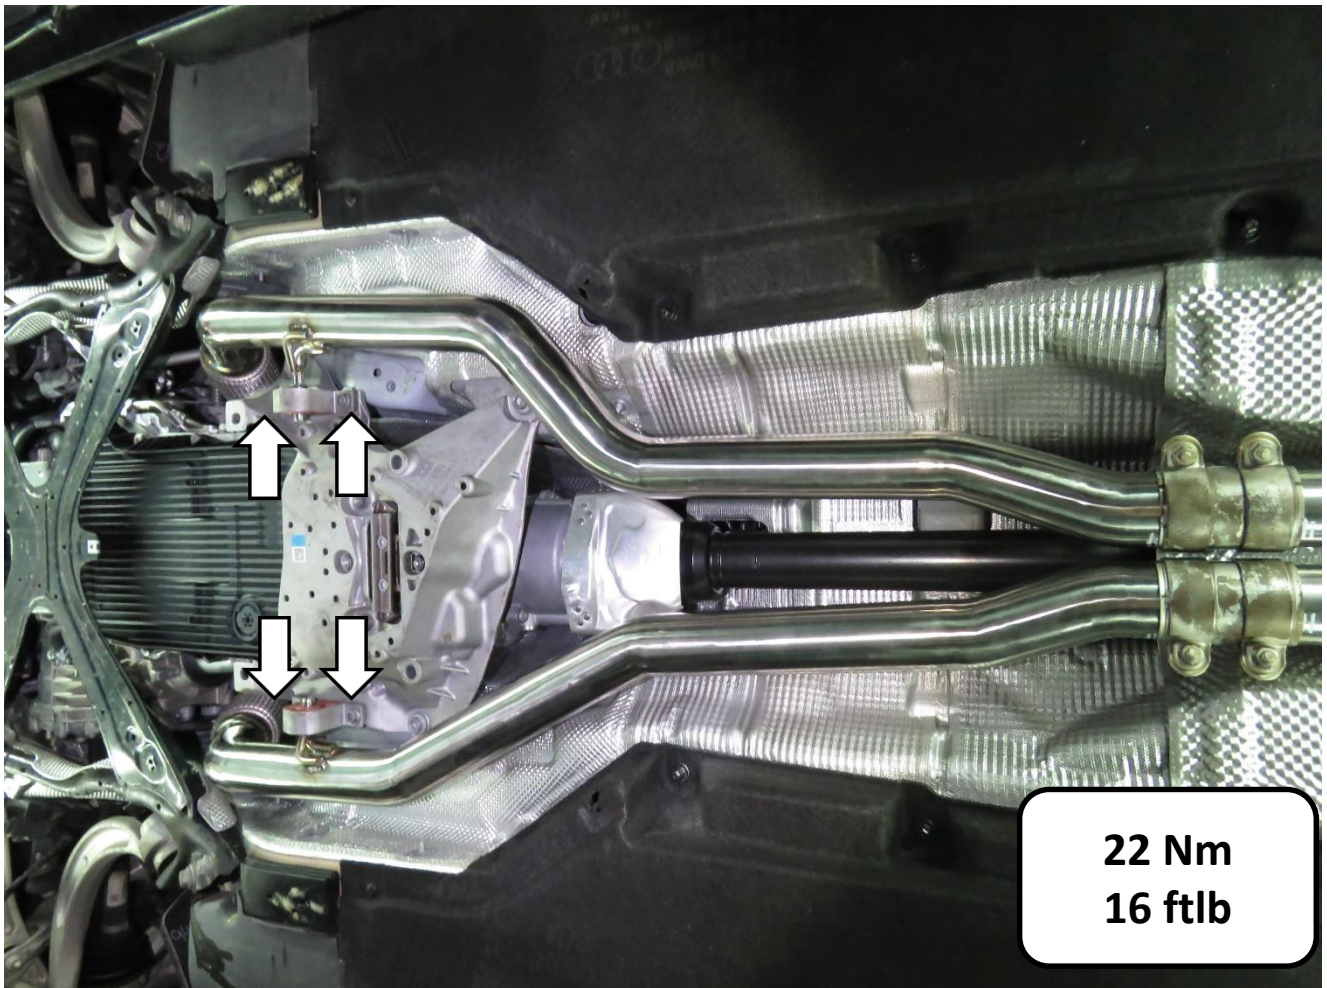
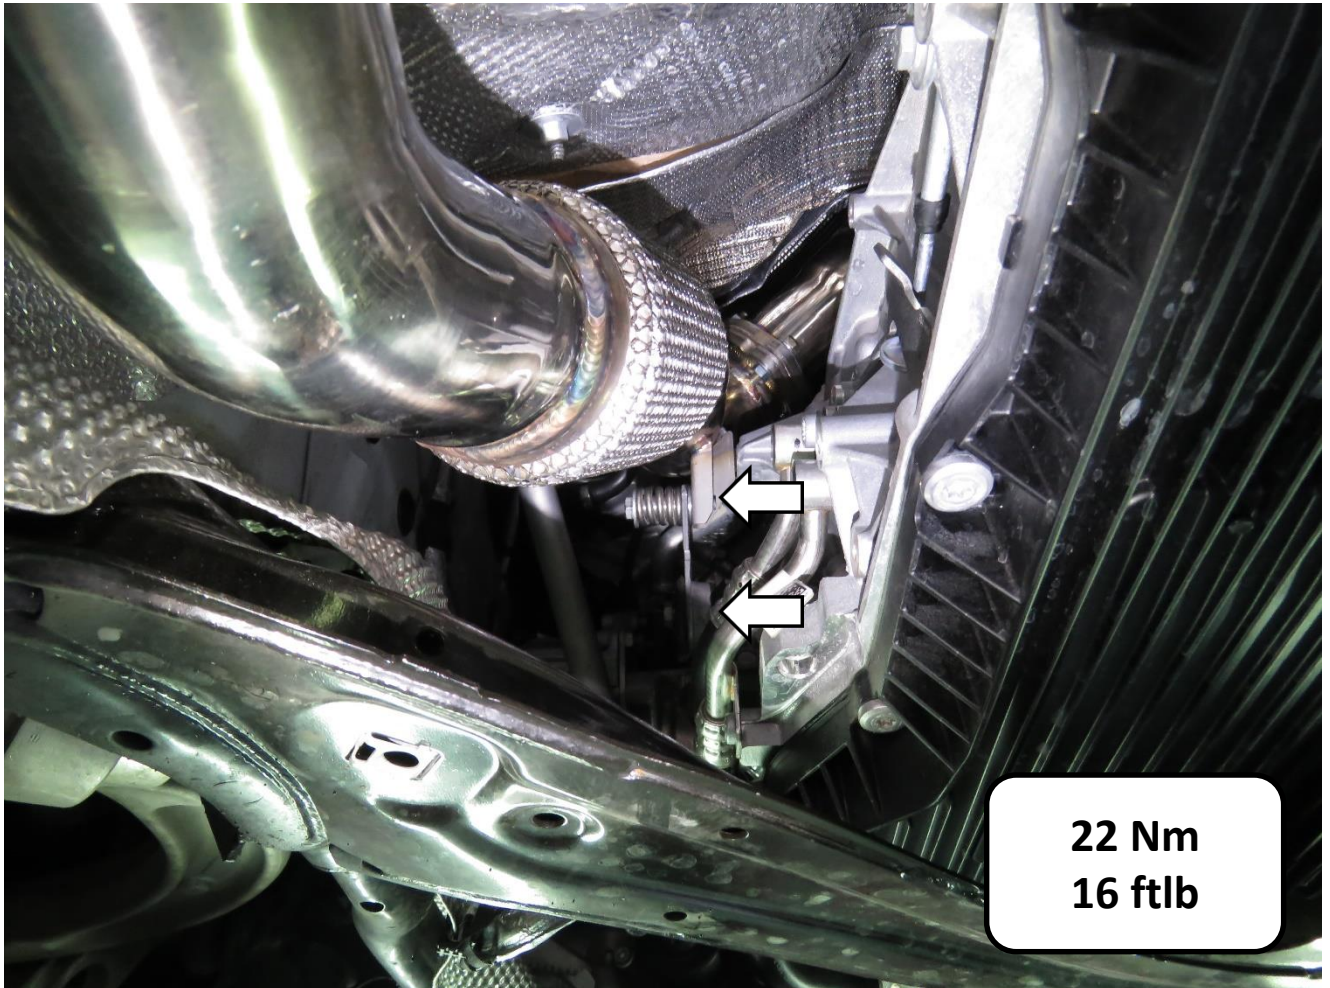

Figure 6
Figure 7
- 2) Place the front pipe in position, followed by lifting lug and catalyst ring with pre-lock only. Lock pipe head first and then tighten lifting lug and catalyst ring. (Figure 6, Figure 7)